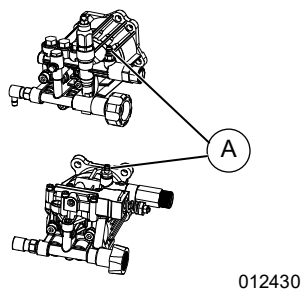

Figure 2-6. Attach Siphon Tube
6. See Figure 2-6. Attach siphon tube to siphon tube connection (A).